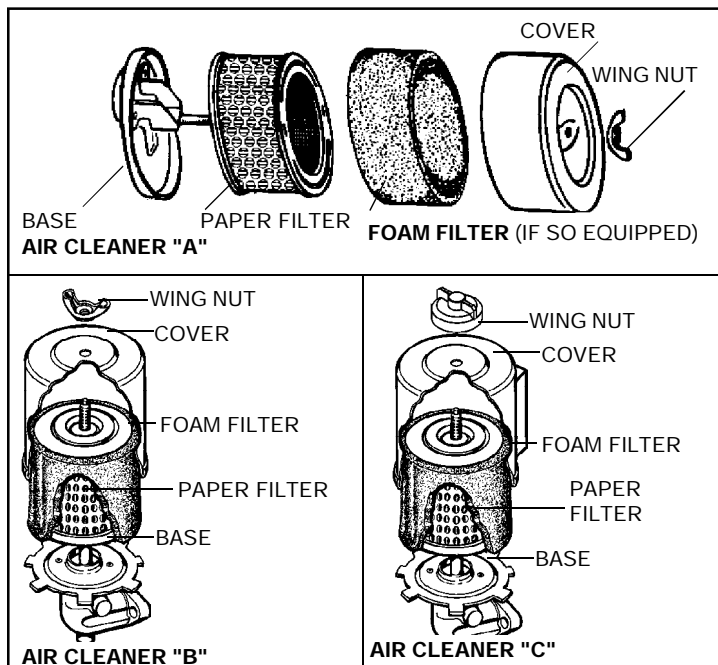

Figure 7
- TO SERVICE FILTER(S) (see Figure 7):
AIR CLEANER "A" (see Figure 7):
AIR CLEANER "B" & "C" (see Figure 7):